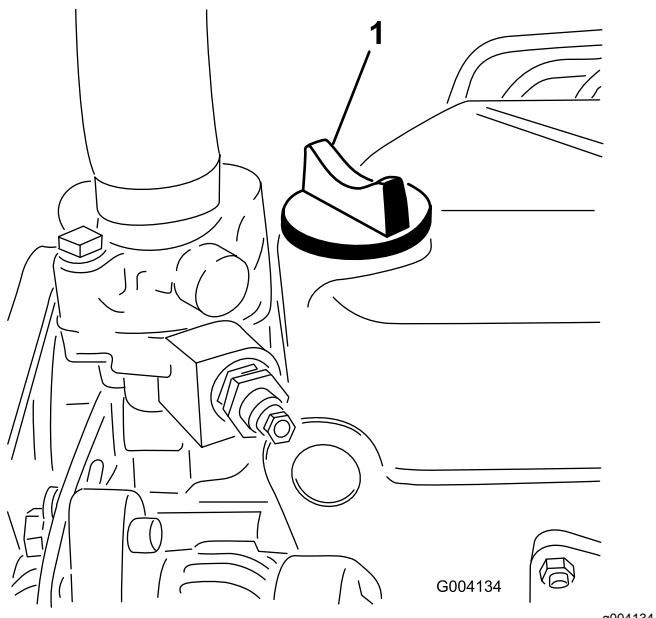

Figure 49
5. If the oil level is below the Full mark, remove the fill cap (Figure 49) and add oil until the level reaches the Full mark on the dipstick.